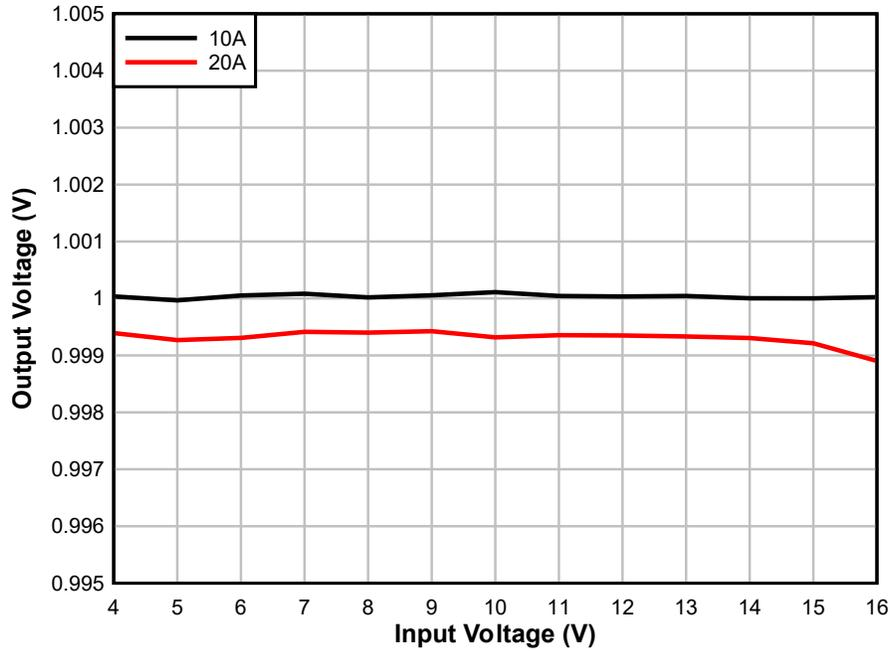

Figure 4-3. VOUT Line Regulation
6. Vary V_{IN} from 4V to 16V. V_{OUT} must remain in regulation as defined in Figure 4-3.